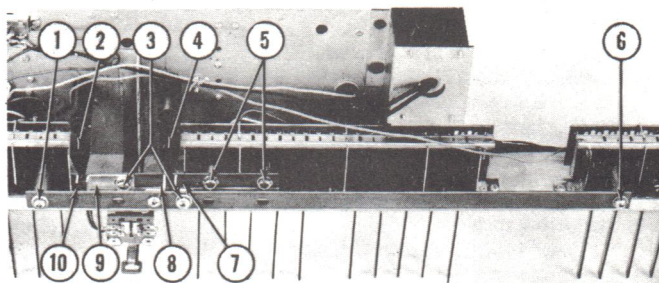
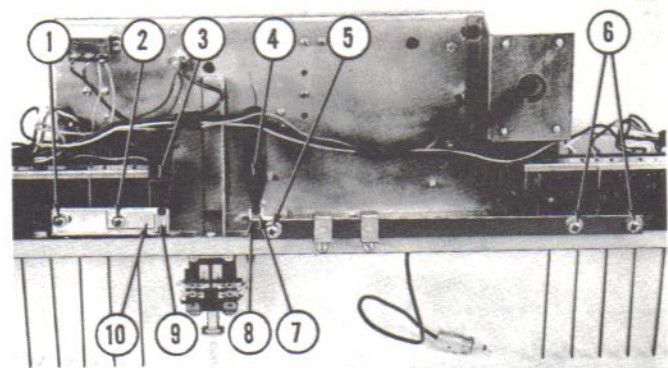
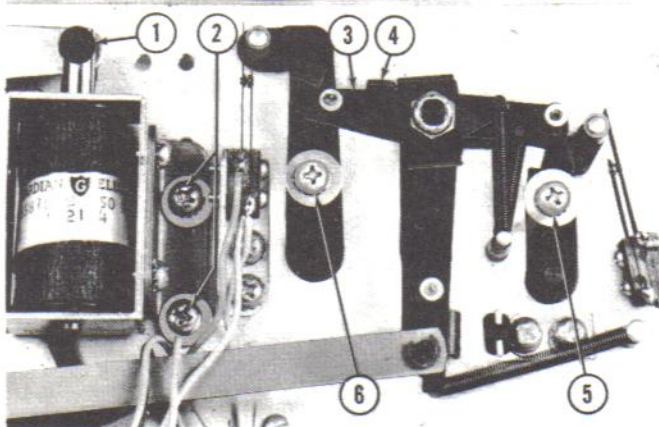

Fig. 12. CONNECTOR LINK ADJUSTMENT - 2500
Fig. 14. CONNECTOR LINK ADJUSTMENT - 2510
Fig. 15. PRELIMINARY ADJUSTMENT OF LATCH SOLENOID
Figure 12 shows the underside of the 2500 Selector Switch Assembly. Should any adjustments be
(1) Loosen the linkage adjusting screws (Fig. 12, Items 1, 3, 5 & 6) and the two latch lever adjusting screws (Fig. 15, Items 5 & 6). Check all selector switch push rods and latch bars for freedom of action. If any bind exists, correct before proceeding with the adjustments.
(2) Hold the selector switch assembly with the push rods down as shown in Figure 12 and allow the selector switches to assume their natural rest position. Allow the shaft, link and lever assemblies (Items 2 & 4) to fall into their natural vertical positions. Maintain this position and set the connecting links (Items 8 & 10) to zero clearance with the shaft, link and lever assemblies (Items 2 & 4). Tighten the screws (Items 1, 5 & 6).
(3) Set the adjustable clips (Items 7 & 9) to minimum clearance with the shaft, link and lever assembly (Items 2 & 4) and tighten the screws (Item 3). Check for complete freedom of action. If any bind exists repeat the foregoing adjustments.
adjusting screws (Fig. 15, Items 5 & 6). Check all selector switch push rods and latch bars for freedom of action. If any bind exists, correct before proceeding with the adjustments.
Figure 14 shows the underside of the 2510 selector switch assembly. Should any adjustment be required, readjust the entire assembly through the following sequence:
(1) Loosen the linkage adjusting screws (Fig. 14, Items 1, 2, 5 & 6) and the two latch lever adjusting screws (Fig. 15, Items 5 & 6). Check all selector switch push rods and latch bars for freedom of action. If any bind exists, correct before proceeding with the adjustments.
(2) Hold the selector switch assembly with the push rods down as shown in Figure 14 and allow the selector switches to assume their natural rest
Loosen the latch solenoid adjusting screws (Fig. 15, Item 2). Manually hold the solenoid plunger (Item 1) firmly bottomed in the solenoid and set the solenoid to provide $3/64$ " maximum clearance between the tab on the release lever (Item 4) and the trip lever (Item 3). The plunger travel should not exceed $3/16$ of an inch.
(1) The latch adjusting screws (Fig. 15, Items 5 & 6) were loosened to perform the link ad-
(1) Loosen the latch solenoid adjusting screws (Fig. 15, Item 2). Manually hold the plunger (Item 1) firmly bottomed in the solenoid. Move the solenoid to provide 5/64 of an inch maximum clearance between the tab on the release lever (Item 4) and the letter trip lever (Item 3).
(2) The plunger travel should not exceed 3/16 of an inch. Check the release lever action for mechanical bind of plunger in latch solenoid.